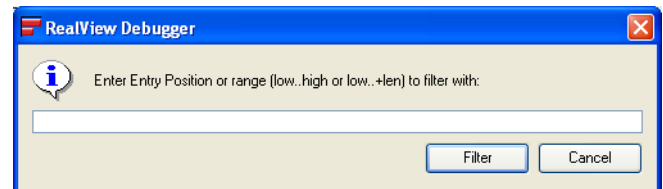

Figure 9-12 Filtering on a position match
1. Select **Filter on Position...** from the **Filter** menu to display the Prompt dialog box. Figure 9-12 shows an example: